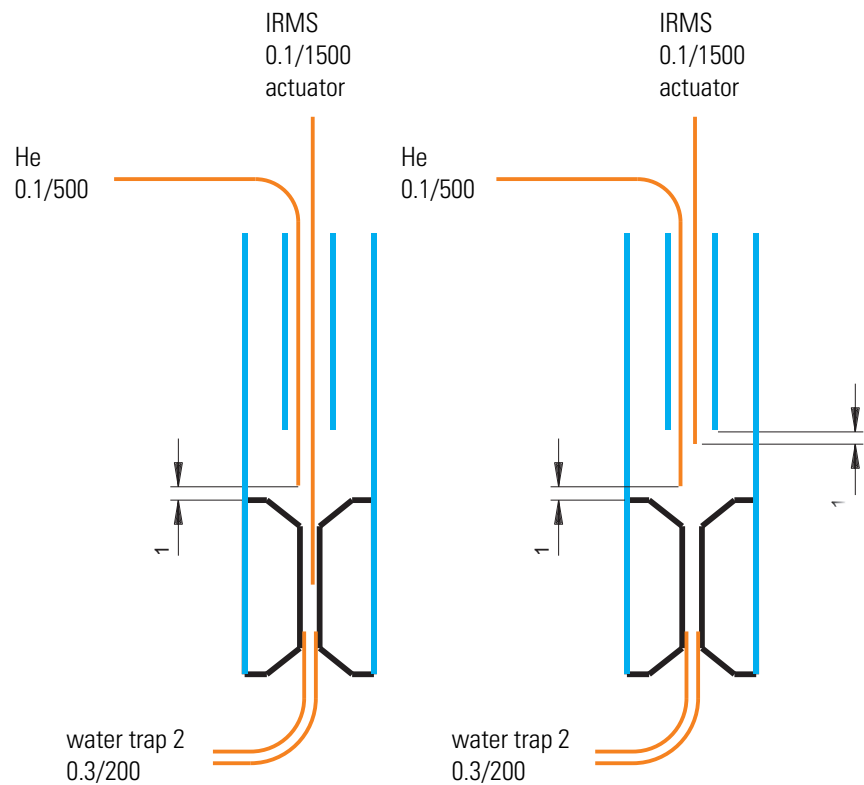

Figure 3-34. Sample injection and dilution
- left side of Figure 3-34: no dilution
- right side of Figure 3-34: dilution active